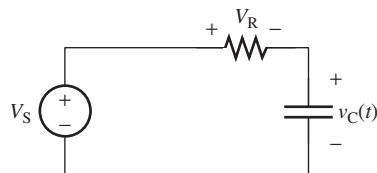

FIGURE P5.9 Circuit for Problem 5.9.
- 5.9 (H) Given the circuit shown in Figure P5.9, find V_R in terms of R , C , and V_S .